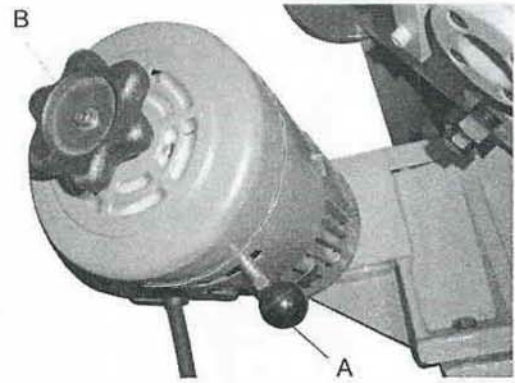

Fig. 6
For inching feed, please disengage the clutch (A) Fig. 6 right under the feed motor, and push it to the left. Rotate the knob (B) to feed material to the desired cutting length, and engage the clutch again.